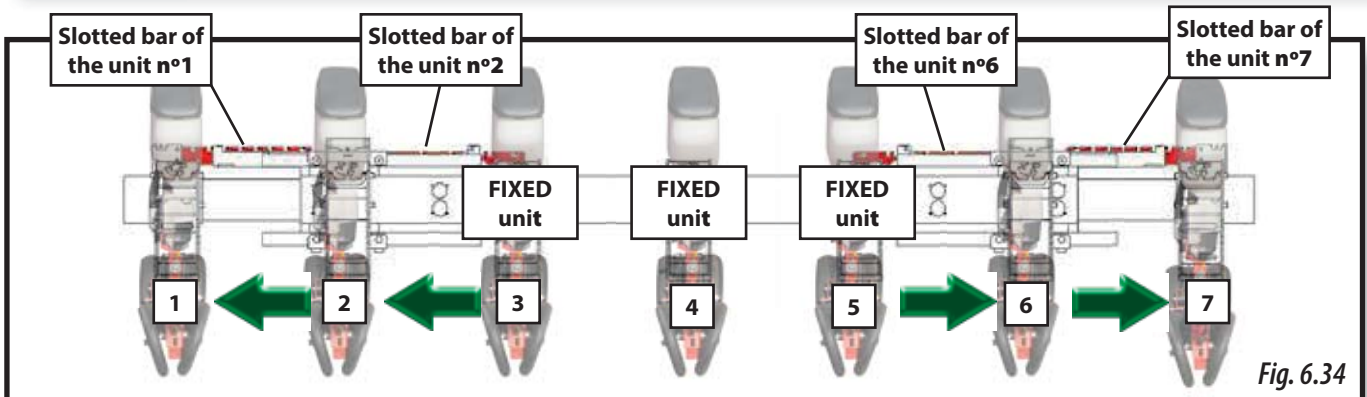

Fig. 6.34
- 4 units, two at each frame's end, in machines with DOUBLE TELESCOPIC FRAME (Fig. 6.34).